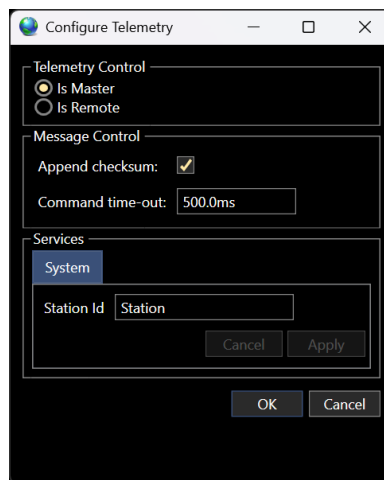

FIGURE 2 SERIAL RADIO TELEMETRY – MASTER
- I. Telemetry Control: Is Master (see Figure 2)